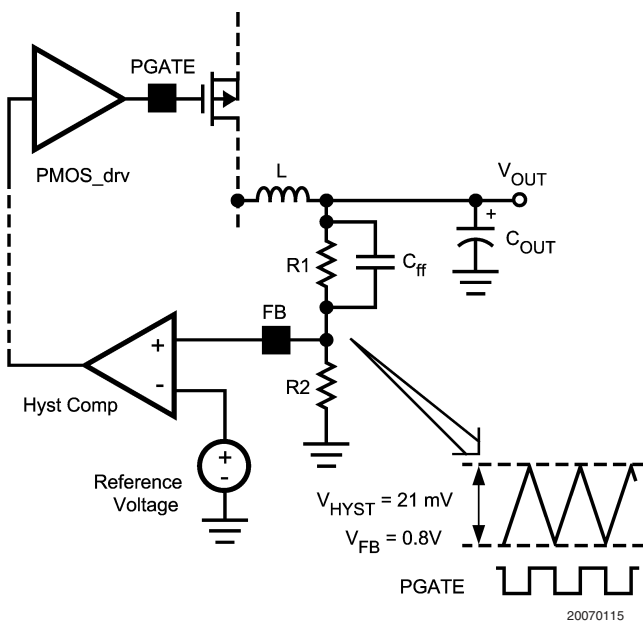

FIGURE 2. Hysteretic Window
The output voltage is programmed using a resistor divider between V_{OUT} and GND as shown in *Figure 2*. The feedback resistors can be calculated as follows:
The operating frequency and output ripple voltage can also be significantly influenced using a speed up capacitor, C_{ff} , as shown in *Figure 2*. C_{ff} is connected in parallel with the high side feedback resistor, R_1 . The output ripple causes a current to be sourced or sunk through this capacitor. This current is essentially a square wave. Since the input to the feedback pin (FB) is a high impedance node, the bulk of the current flows through R_2 . This superimposes a square wave ripple voltage on the FB node. The end result is a reduction in output ripple and an increase in operating frequency. When adding C_{ff} , calculate the formula above with $\alpha = 1$. The value of C_{ff} depends on the desired operating frequency and the value of R_2 . A good starting point is 1nF ceramic at 100kHz decreasing linearly with increased operating frequency. Also note that as the output voltage is programmed below 1.6V, the effect of C_{ff} will decrease significantly.